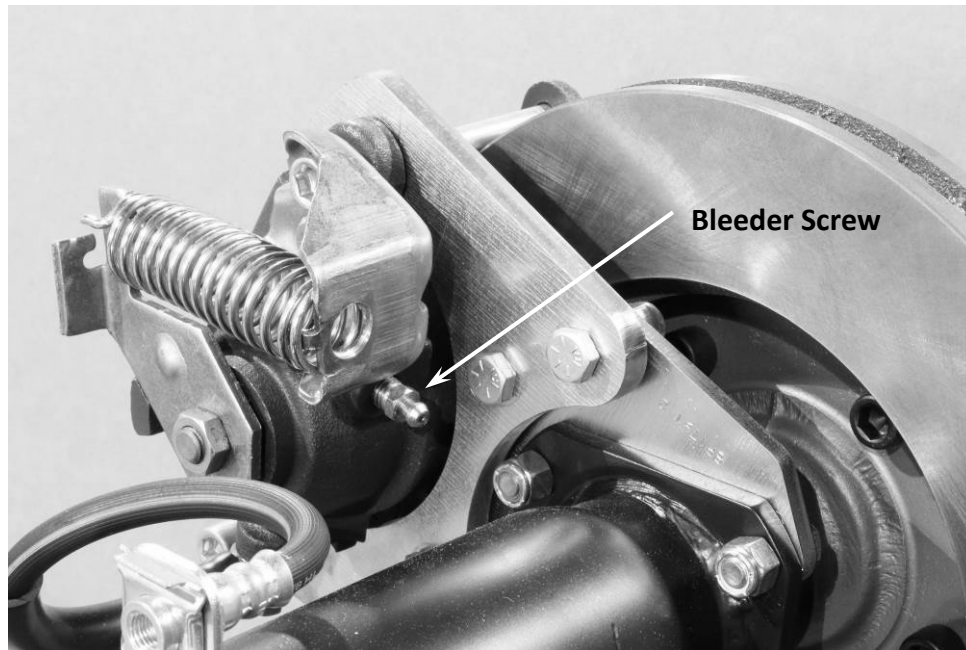

Figure 8 – Caliper Installed w/Bleeder Screw on Top
10. Install the caliper over the rotor. When installing, make sure the bleeder screw is pointing up like shown in Figure 8 below. After installed and in place, slide the caliper mounting bolts through the caliper and thread them into the bracket. Torque the bolts to 50 ft/lbs.